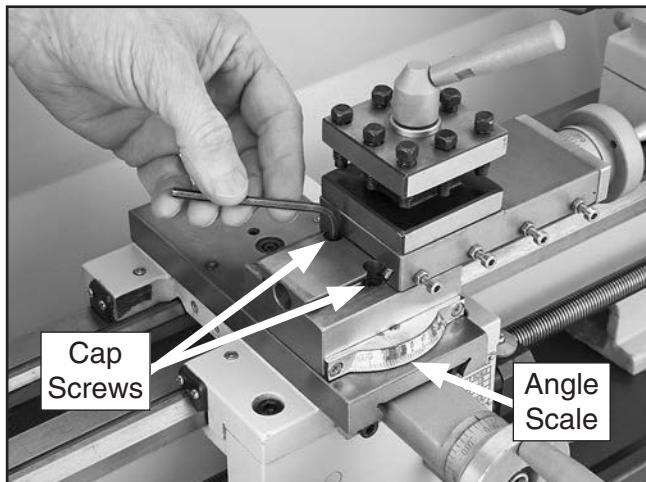

Figure 49. Compound rest angle adjustments.
1. Loosen cap screws shown in **Figure 49**.
Use this handwheel to move the cutting tool linearly along the set angle of the compound rest. Set the compound rest angle by hand-rotating it and securing it with the two cap screws (see **Figure 49 on Page 44**). The compound rest has an indirect-read graduated dial.